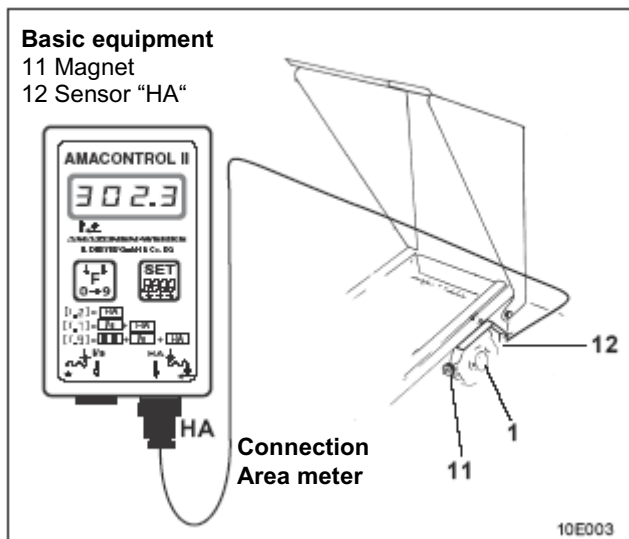

Fig. 2.2
Fig. 2.2 shows the attachment points for the sensors and magnets on the gearbox input shaft (1).